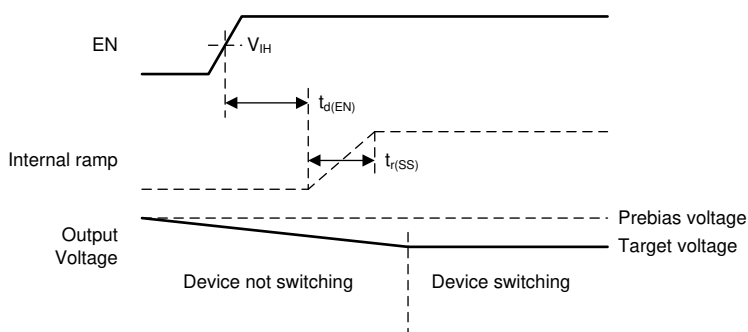

Figure 11. Start-Up Behavior into Prebiased (High) Output
- If the prebias voltage is *higher* than the target voltage, the device does not start to switch until the output voltage has decreased to the target voltage (see Figure 11). The device cannot actively discharge the output to the target voltage and relies on the load current to discharge the output capacitor and decrease the output voltage to the target value.